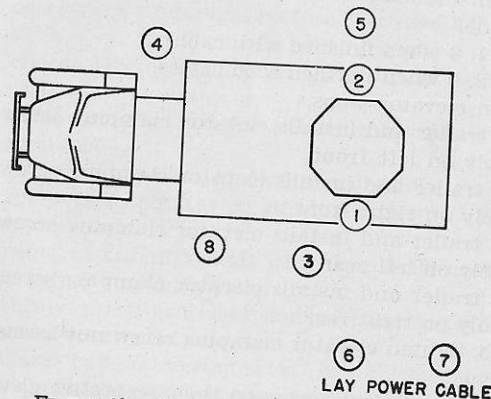

FIGURE 49.—Stations at command EMPLACE.
■ 56. EMPLACE.—Command is given by CRO. The men move from the positions assumed at the command FALL IN to positions shown in figure 49 and work as follows: